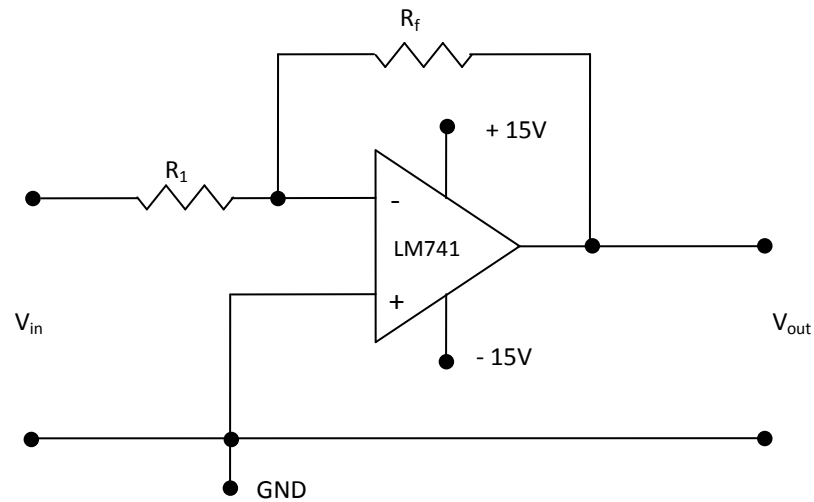
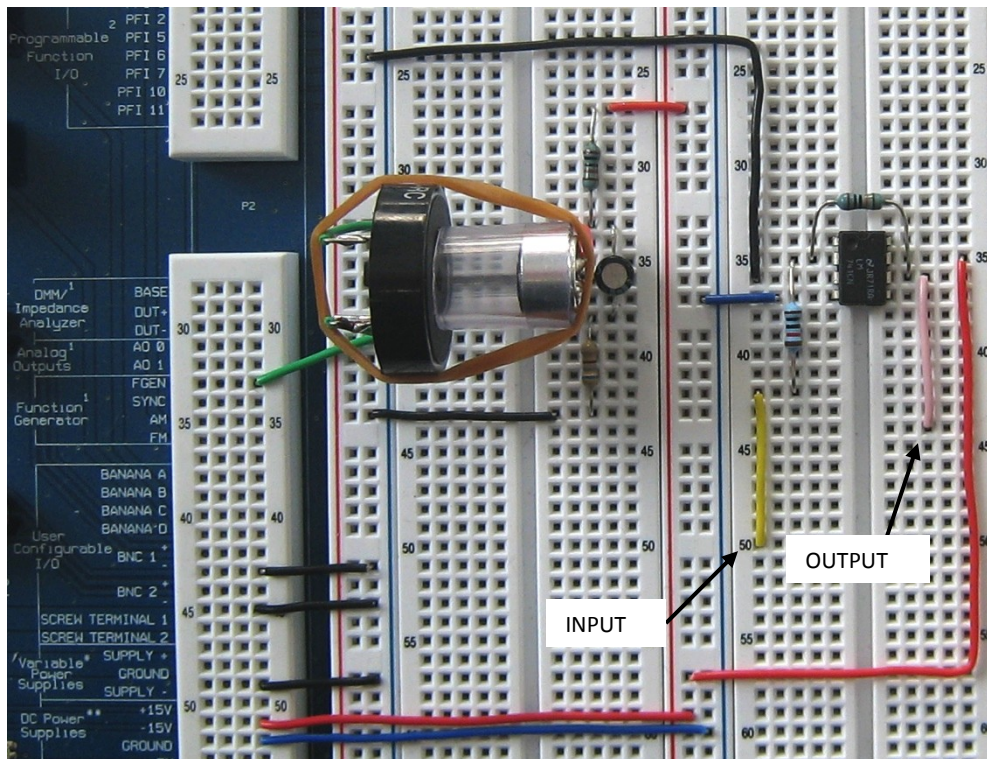

Figure 4-1, Pre-Amplifier – Circuit Diagram
Figure 4-2, Pre-Amplifier – Circuit Implementation
- Following Figure 4-1 and Figure 4-2, build an inverting preamplifier using the LM741 op-amp. Build this separately from the microphone circuit; we'll wire them both together later.